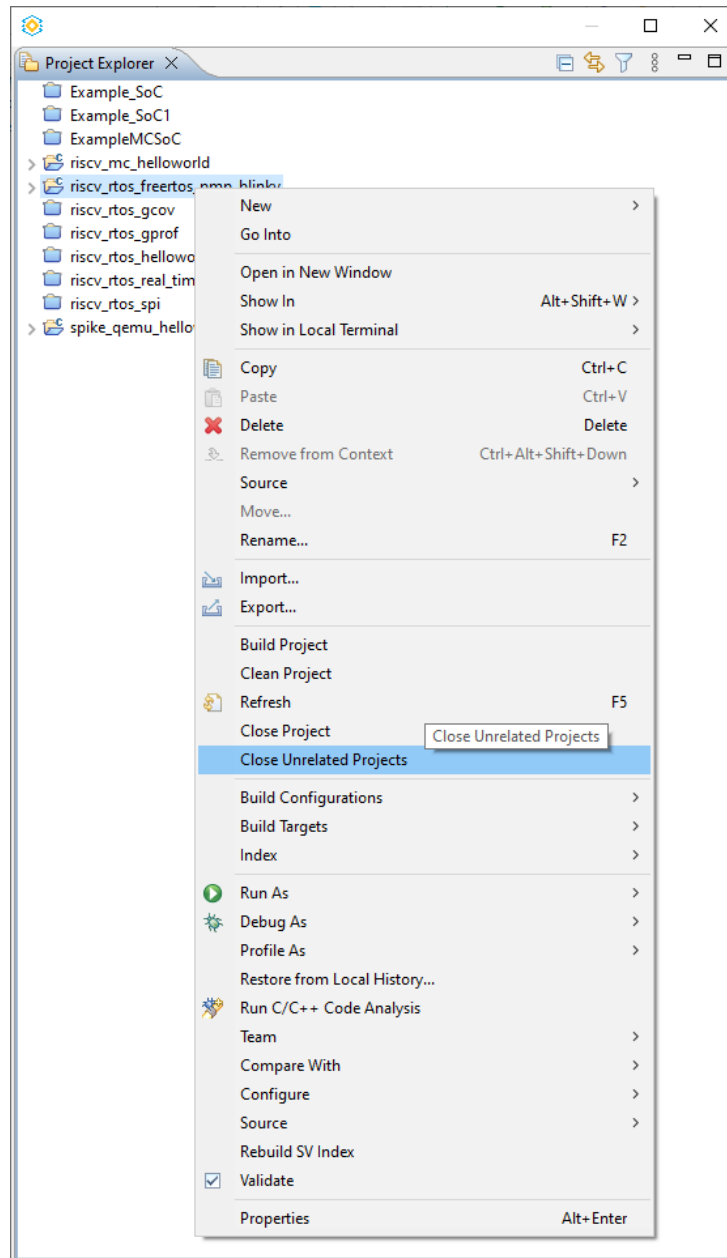

Figure H.4. Closing Unrelated Projects
- Select the debugging project, right-click, and select **Close Unrelated Project** (Figure H.4). Then, re-debug. In this way, breakpoints are cleared temporarily for this debugging project, while pending watchpoints are still visible. If you open a project in the Lattice Propel SDK workspace again, the breakpoints are still there.